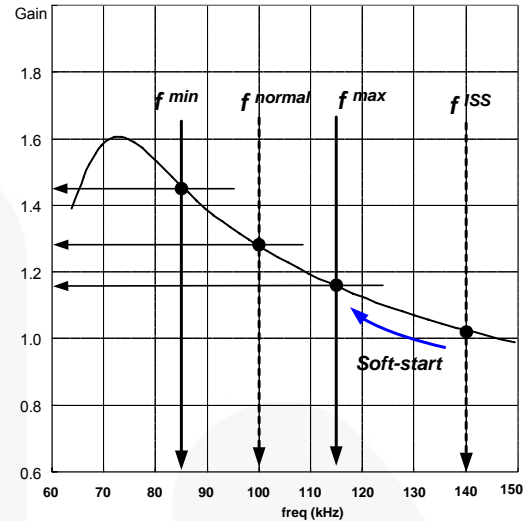
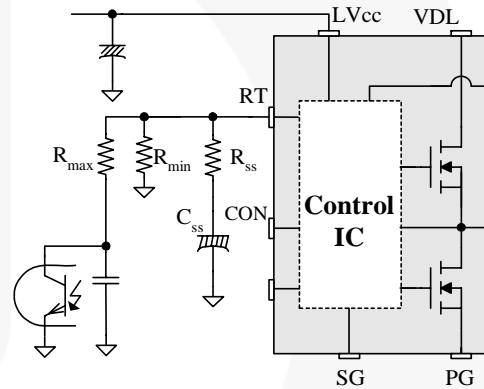

Figure 18. Resonant Converter Typical Gain Curve
Figure 19. Frequency Control Circuit
**3. Frequency Setting:** Figure 18 shows the typical voltage gain curve of a resonant converter, where the gain is inversely proportional to the switching frequency. The output voltage can be regulated by modulating the switching frequency. Figure 19 shows the typical circuit configuration for  $R_T$  pin, where the opto-coupler transistor is connected to the  $R_T$  pin to modulate the switching frequency.
To prevent excessive inrush current and overshoot of output voltage during start-up, increase the voltage gain of the resonant converter progressively. Since the voltage gain of the resonant converter is inversely proportional to the switching frequency, the soft-start is implemented by sweeping down the switching frequency from an initial high frequency ( $f_{iss}$ ) until the output voltage is established. The soft-start circuit is made by connecting R-C series network on the  $R_T$  pin, as shown in Figure 19. FSFR-series also has an internal soft-start for 3ms to reduce the current overshoot during the initial